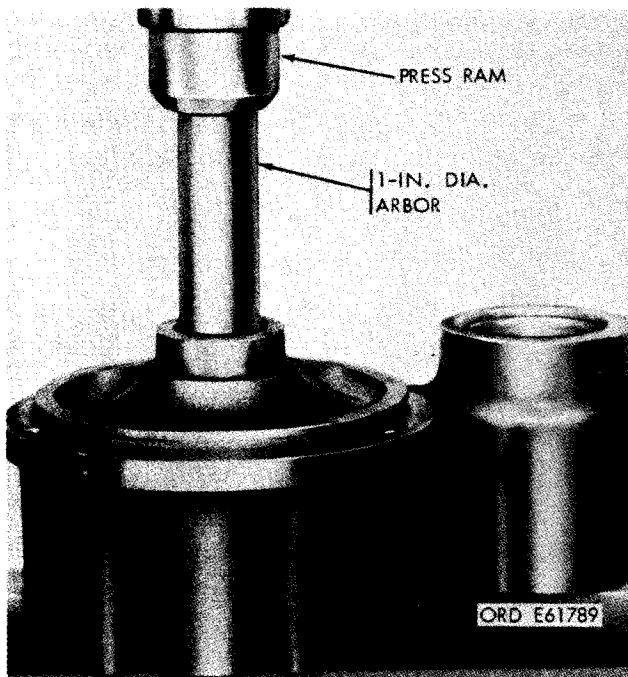

Figure 3-30. Removing or installing bearing in shift housing.
(1) Smooth minor damage such as nicks, burrs, etc., on mating surfaces of housing with a fine mill file.
(2) If bushing-type bearing did not meet allowable wear limits, remove the old bearing as shown in figure 3-30. When installing a new bearing, reposition housing with opposite side up from that shown in figure 3-30 and press bearing in flush with housing bore. Drill bushing oil hole using a  $21/64$ -inch diameter drill and oil wick bore as a pilot. Ream bearing to a diameter of  $0.875 \pm 0.001$ -inch.